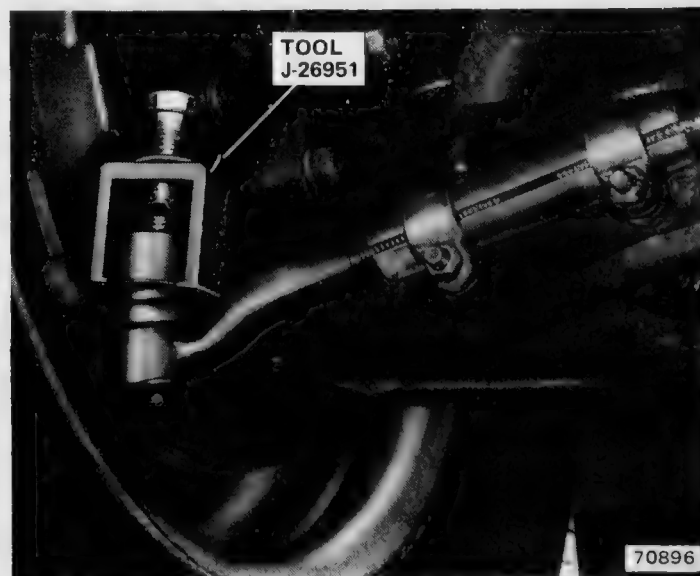

Fig. 2J-15 Disconnecting Tie Rod End
(1) Raise and support front of car.
(2) Disconnect tie rod ends using Tool J-26951 (fig. 2J-15).
(3) Mark position of adjuster tube and tie rod end for assembly reference.
(4) Remove and separate tie rod ends and adjuster tubes.
(5) Install replacement tie rod ends and adjuster tubes. Tighten tube-clamp bolts to 22 foot-pounds (29.8 Nm) torque and tie rod end nuts to 50 foot-pounds (67.9 Nm) torque.
(2) Disconnect tie rod end using Tool J-26951 (fig. 2J-15).
(3) Mark position of adjuster tube and inner tie rod for assembly reference.
(4) Loosen adjuster tube inboard clamp bolt and unthread adjuster tube and tie rod end from inner tie rod assembly.
(5) Cut and remove large boot clamp and move boot aside.